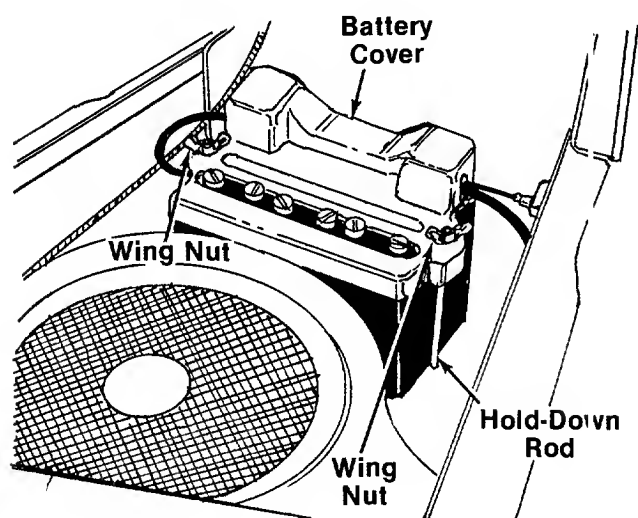

FIGURE 2.
4. Hook one hold-down rod into the hole in the battery plate beside the battery. See figure 2. Place the battery cover in position over the hold-down rod. Secure with wing nut. Attach other hold-down rod to the other side of battery cover in the same manner.